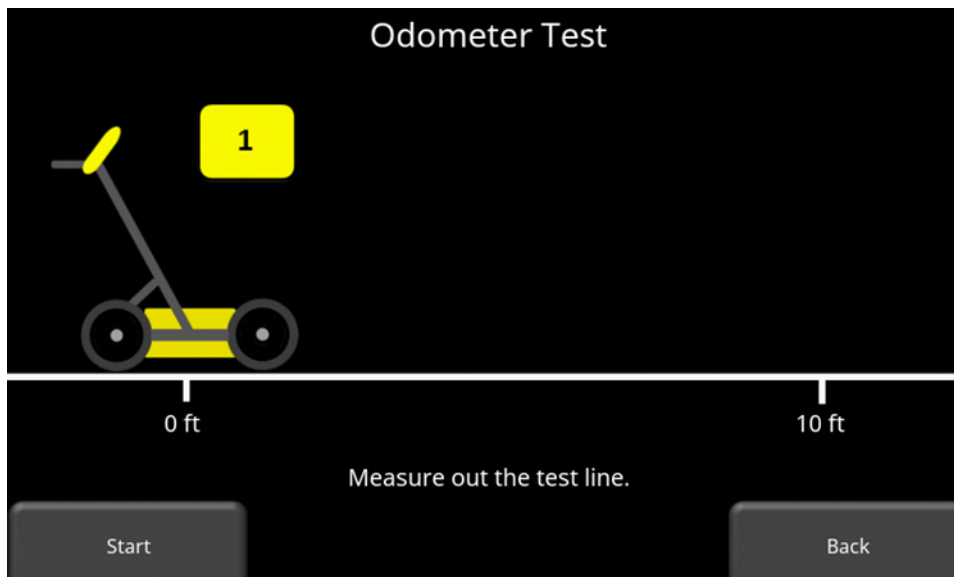
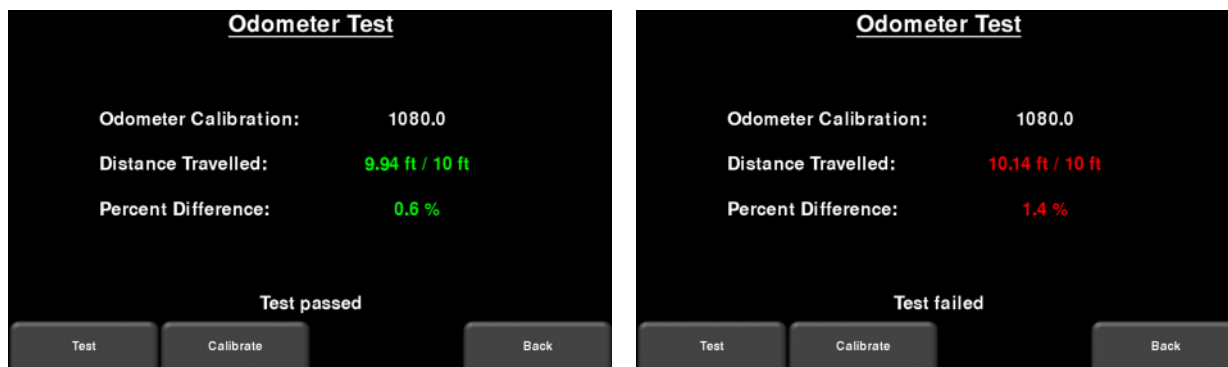

Figure 4-17: Doing an odometer test
Figure 4-18: Odometer Test passed on left, failed on the right.
- **Odometer Test** – This test verifies the odometer is calibrated properly. It involves moving the system a set distance (5m or 10', depending on units used), and comparing the value obtained to a known value. The screen in Figure 4-17 will be displayed once Odometer Test is pressed. Press **Start** to begin and then press **Finish** when you've moved that distance. It will display a pass or fail, along with a percentage difference from the known value (Figure 4-18).